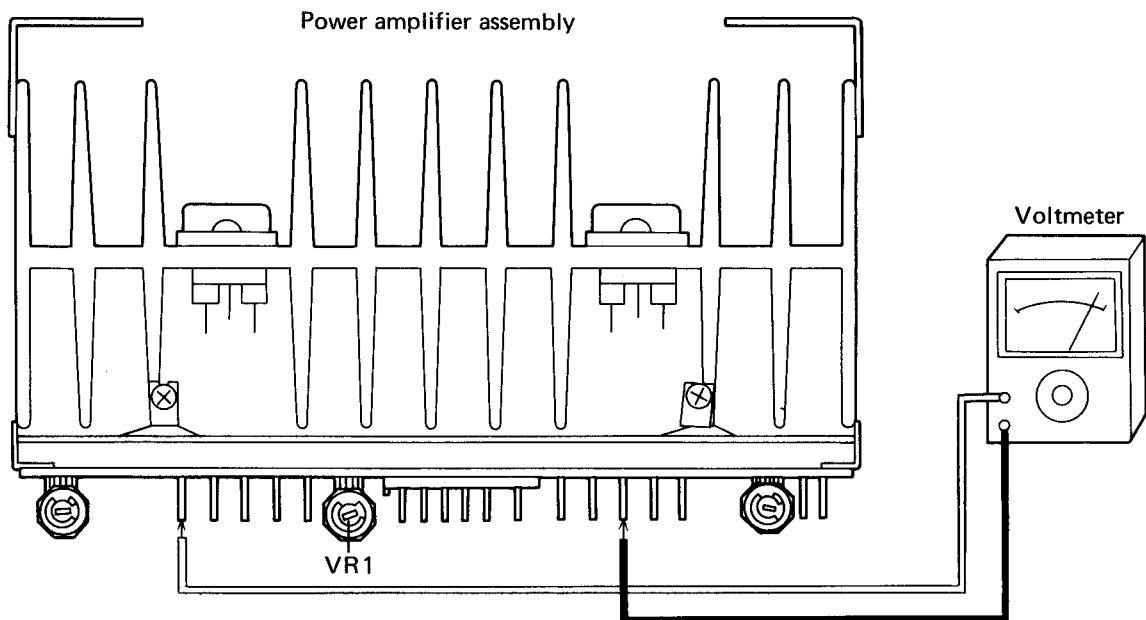

Fig. 12 Connection Diagram for Idle Current Adjustment
- 1) Connect as shown in Fig. 12.